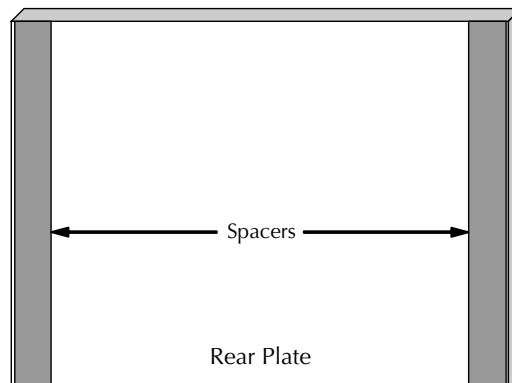

Figure 2-2. Place a spacer along each edge of the plate.
- Lay the rear plate down (gel side up) and place the spacers along the edges, as shown in Figure 2-2.